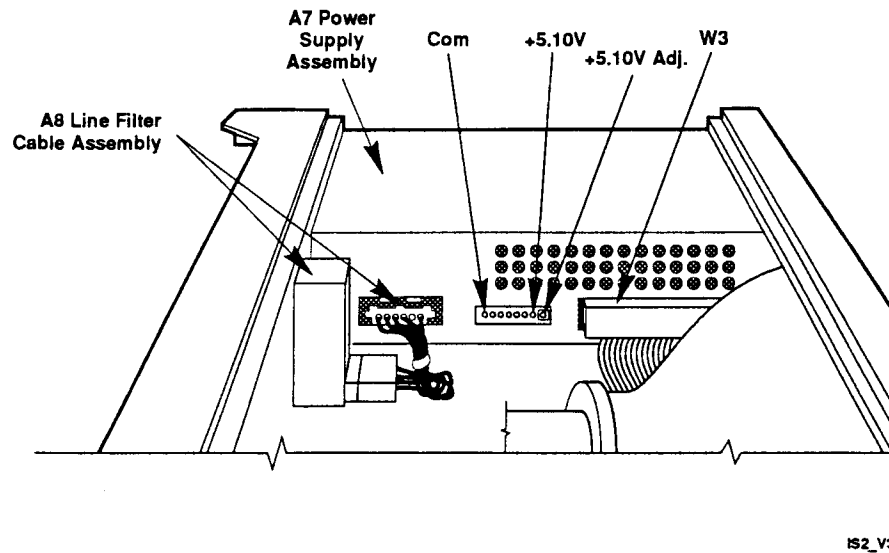

Figure 3-1. A7 Power Supply Assembly Testpoints and Adjustment Location
- 1 Disconnect power cord from the HP 53310A. Refer to *Figure 3-1* for testpoint and adjustment locations.
The +5.10 ADJ location is shown in *Figure 3-1*.